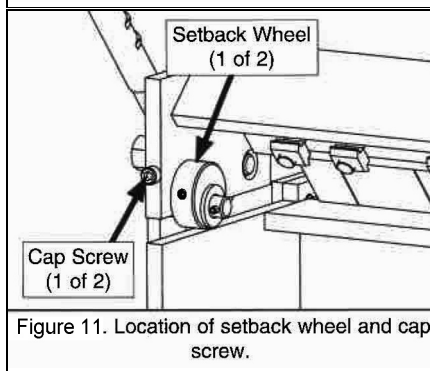

Figure 11. Location of setback wheel and cap screw.
3. Loosen the cap screws that secure the setback wheels (see Figure 11).